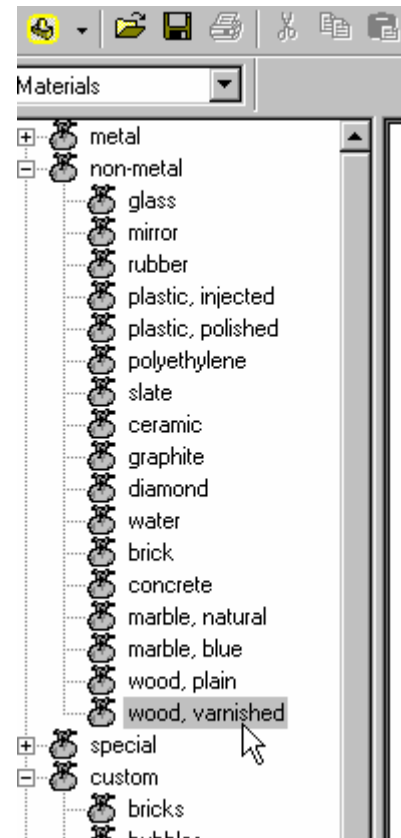

Figure 28. Selecting a fill material.
55. To change material, select Materials in the browser. Click the + in front of non-metal. Notice that a number of materials are available as shown in figure 28.